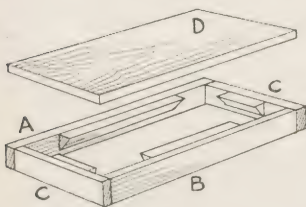

Fig. 1—How the base is built up
of this case are cut square at the ends and glued together as Fig. 1 shows. Note that piece A will form the front as it runs through from end to end and thus shows no end grain of the pieces C.
The floor (D) is next glued on and one or two long screws run in. The base is then glued underneath, with angle filets fixed in the four angles as shown in Fig. 1. A plain piece I is cut, the two end top edges being rounded off with glasspaper and then glued on centrally to piece F.